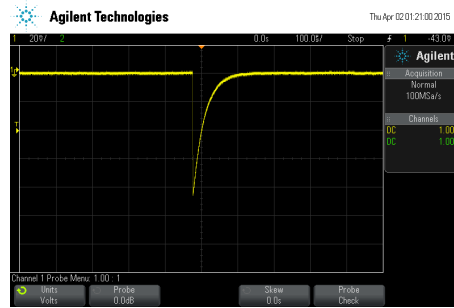

Figure 2: Typical signal from a 9" PMT working at 1200V HV nominal level
PMT signal is a negative pulse of few tenths of milivolts height and microseconds wide, an example is shown in figure 2. The rate of the pulses depends of many factors, for this experience we can assume $100Hz$.
As you can see in figure 2 the signal has a very fast transition from 0V to V_{peak} , the amplifier must be capable to "follows" this variation so a fast op-amp must be used. Select an op-amp with adequate slew rate is mandatory, see ref. 4 for an explanation about this op-amp parameter.